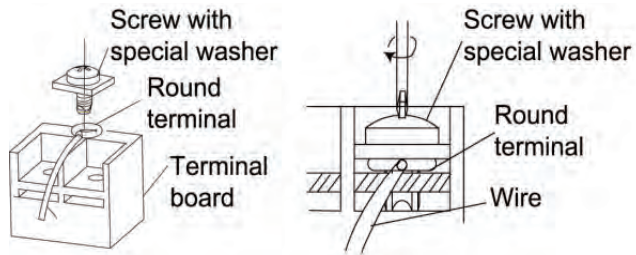

Fig.19
4). Position the round terminal wire, and replace and tighten the terminal screw with a screwdriver.(Fig.19)